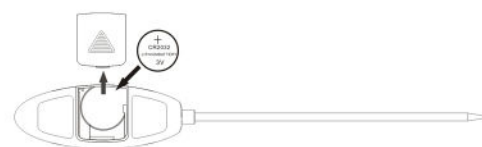

Figure 3
- 1、 Open the battery cover and install CR2032 button battery (As Shown in Figure 3).